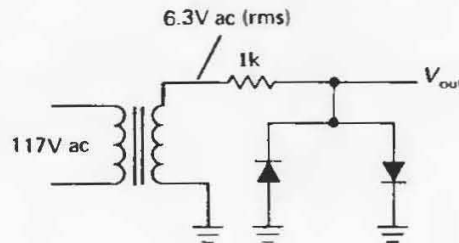

Figure 1.110
(7) Sketch the output for the circuit shown in Figure 1.110.
(8) Design an oscilloscope “ $\times 10$  probe”